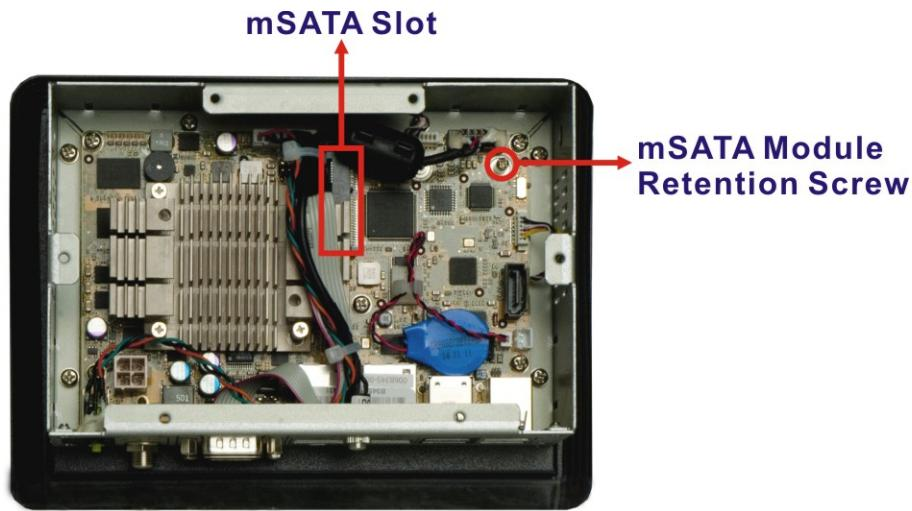

Figure 3-2: mSATA Module Slot Location
Step 2: Locate the full-size PCIe Mini card slot. Remove the preinstalled retention screw on the screw pillar of the PCIe Mini card slot as shown in **Figure 3-2**.
Step 2: Locate the SATA connector as shown in **Figure 3-2**.